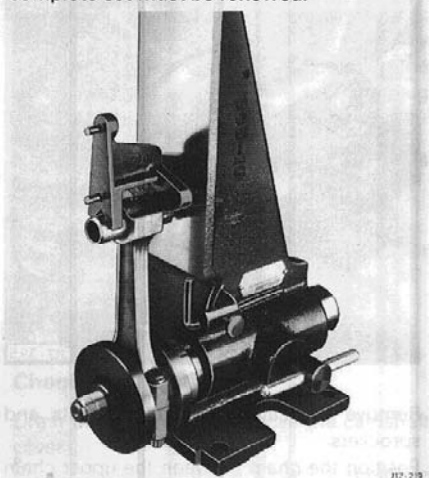
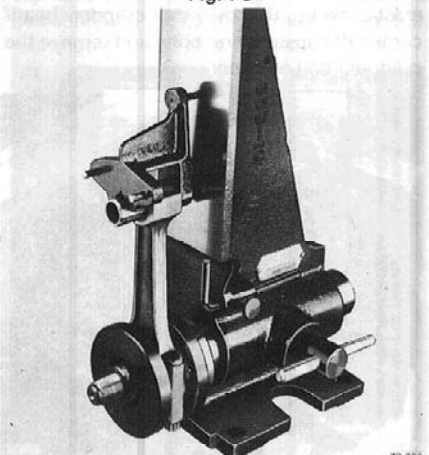

Fig. 73
Fig. 74
**NOTE:** Check the connecting rods for out of balance, twist (Fig. 73) and bend (Fig. 74). If any connecting rod is bent, twisted or out of balance with the other five, then the complete set must be renewed.